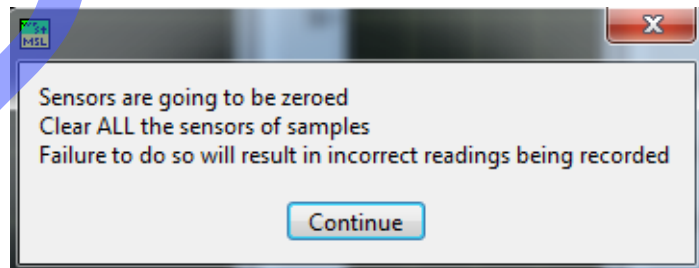

Figure 7. Clear sensors message.
- Before beginning the measuring process again, a **Sensors will be zeroed** message will appear; click **OK** (Fig. 7)